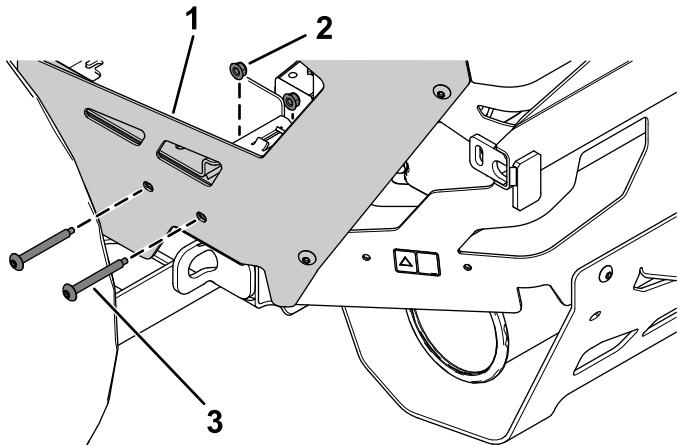

Figure 12
2. Remove the 2 torx-head bolts and 2 nuts from the left, rear guard (Figure 12).